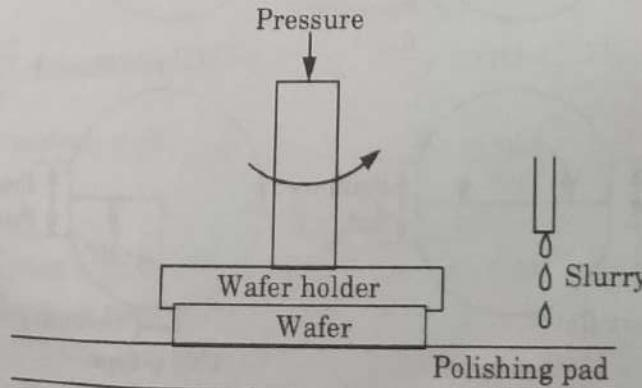

Fig. 1.11.1. Schematic of polishing process.
2. Fig. 1.11.1 shows a typical polishing machine and a schematic of the process.